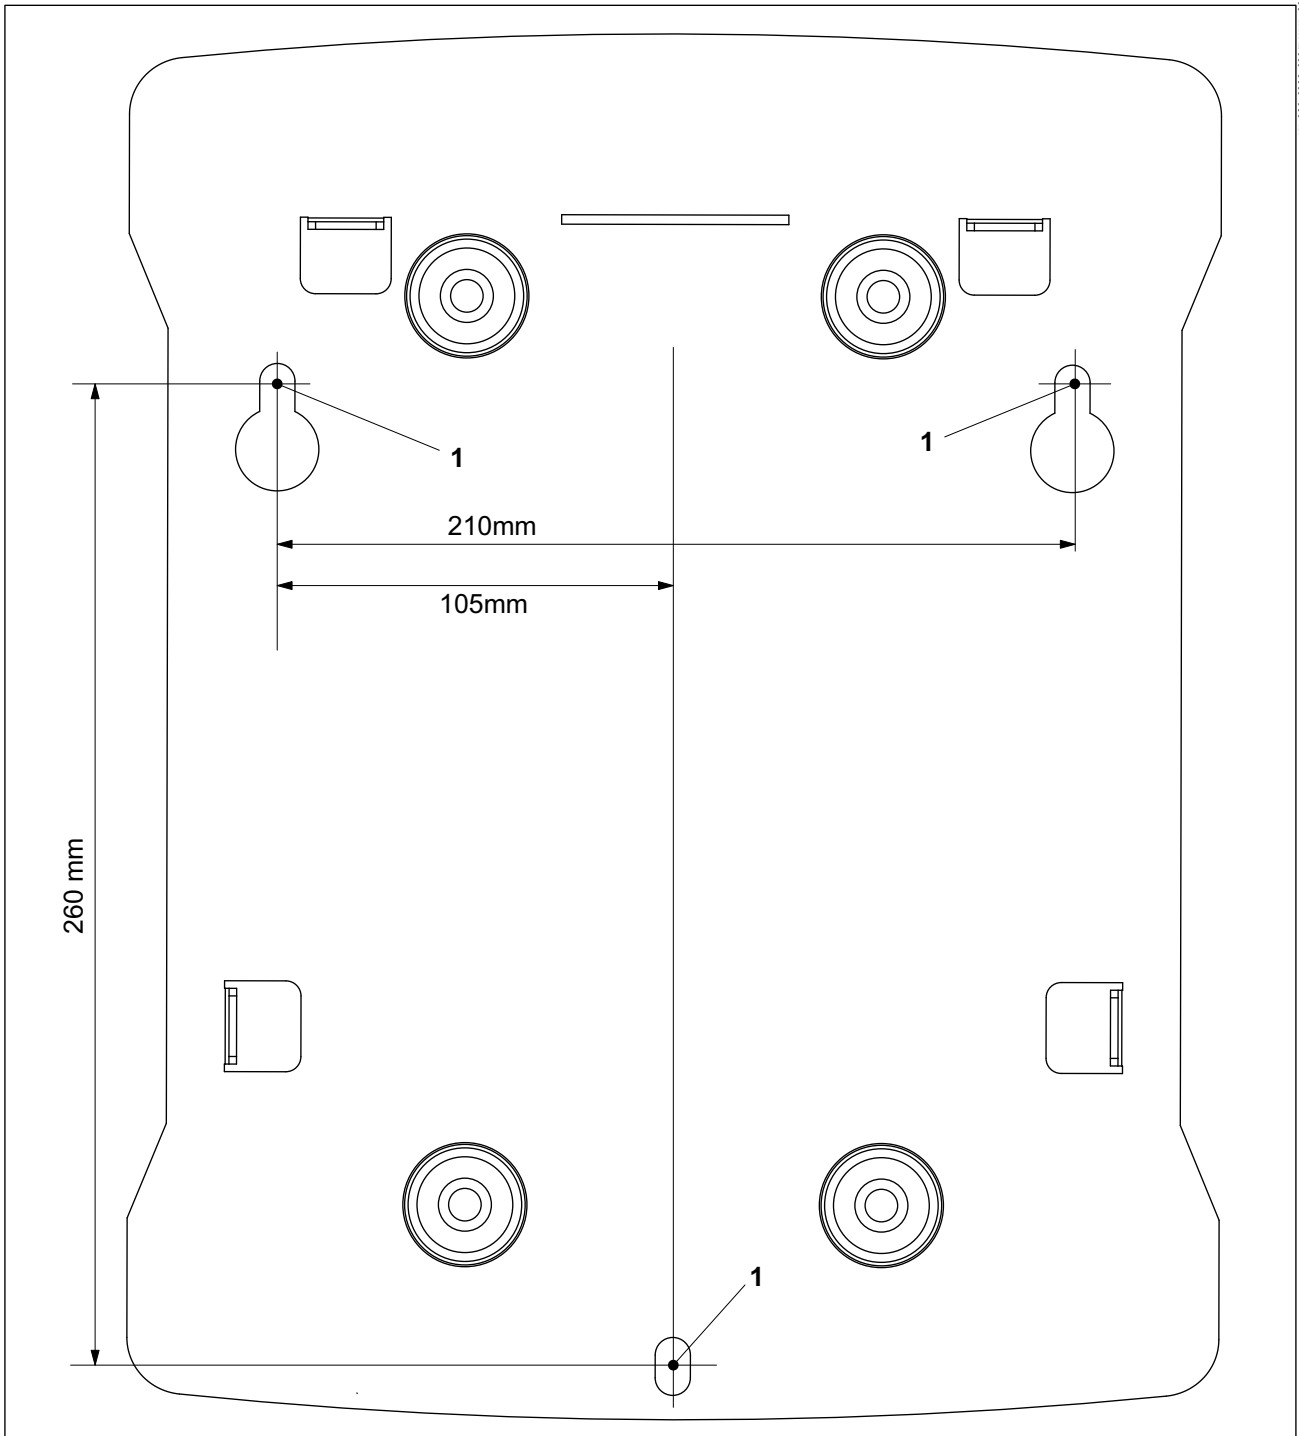

Fig. 1 Drilling plan for the Wallbox basicEVO
1. Mark the three mounting holes (Fig. 1/1) as shown on the drilling plan.